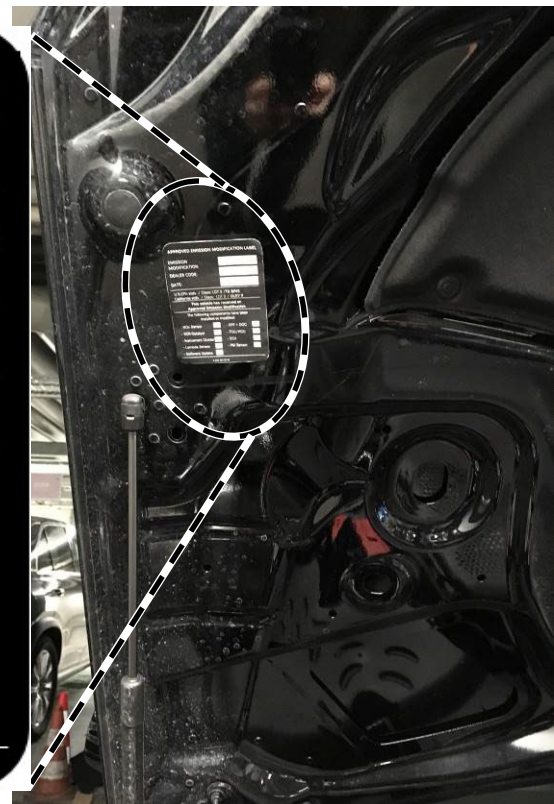

Figure 8
14. Clean the bonding surface of the hood and attach the AEM-label (**Figure 8**).